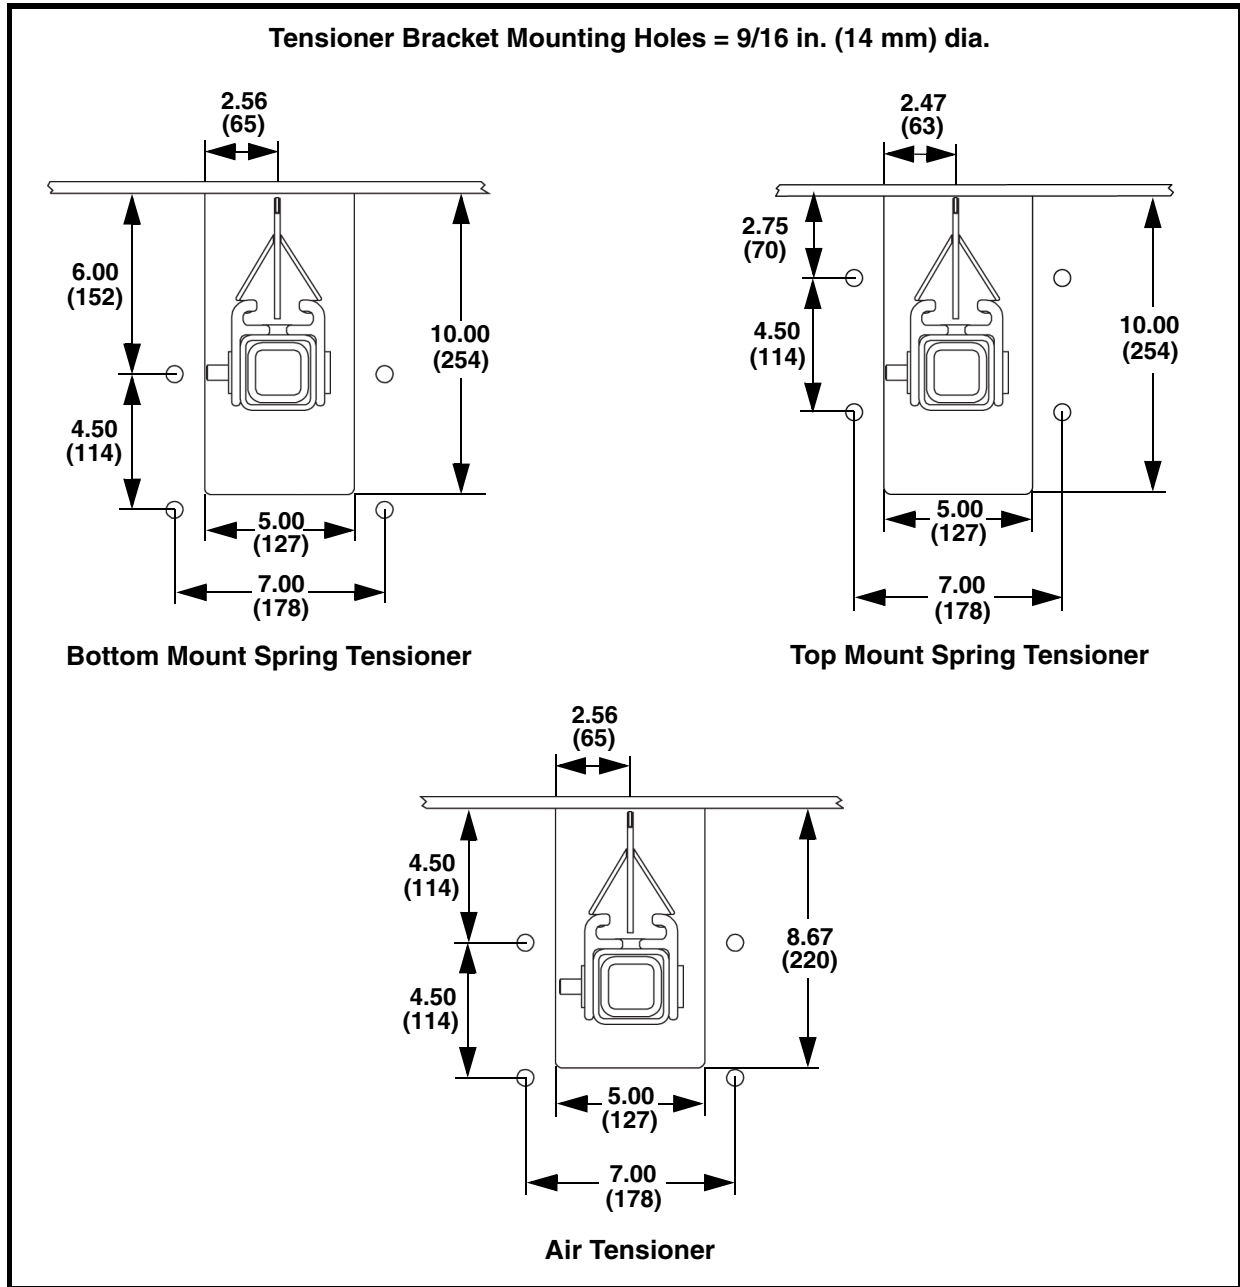

Figure 3. Chute Cutout Detail
1. Using the previously marked line as the centerline, mark the chute cutout and mount hole locations as shown in Figure 3. Repeat on both sides of chute, ensuring the cutouts are accurately aligned with each other.